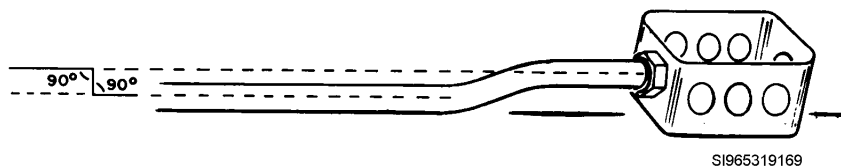

Figure 5. Box offset
- An offset bend is two equal bends in opposite directions. Use it to avoid contacting a part of the structure or to bring the conduit out from the structure to match a knockout in a box or panel. Figure 5 shows an offset into a utility box. The angle of the bends in an offset depends on several things: how much offset is needed, how much room there is where the offset is going to be placed, and the type of obstacle you are avoiding. The offset shown is usually about 1 inch in depth and the bends are about 10° angles. There is no way to mark the conduit for a box offset of this depth. The amount of bend and the distance between them are estimated. The key to making a good box offset is practice. Notice that after the bends are made, the conduit sections on each end of the offset are parallel to each other.